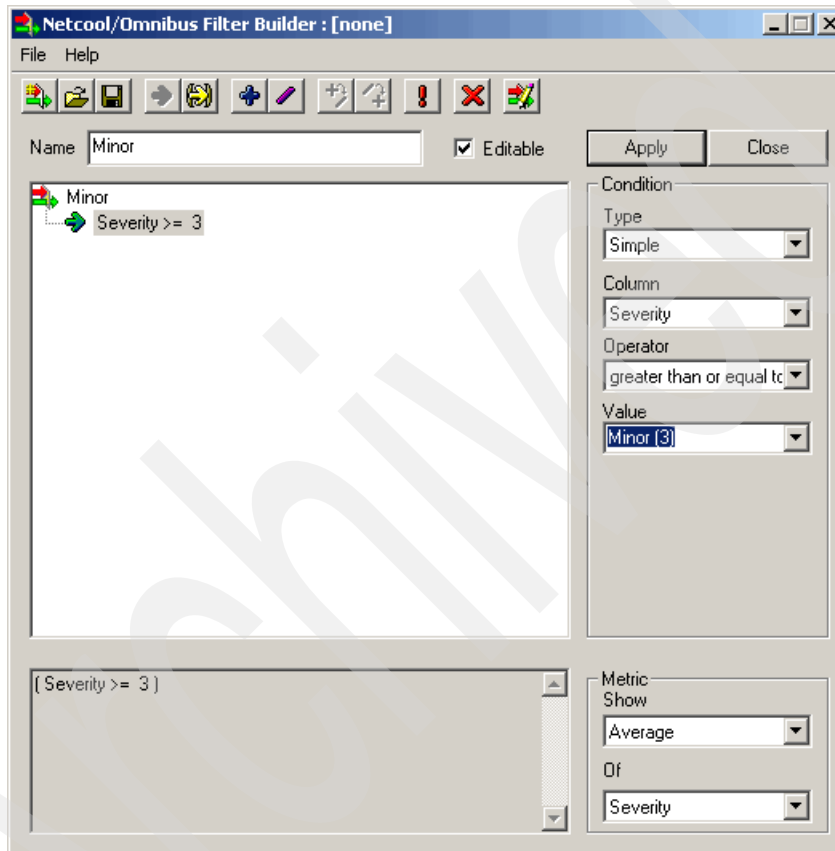

Figure 4-27 Filter Builder window
2. In the Filter Builder window shown in Figure 4-27, select **File** → **New** and: